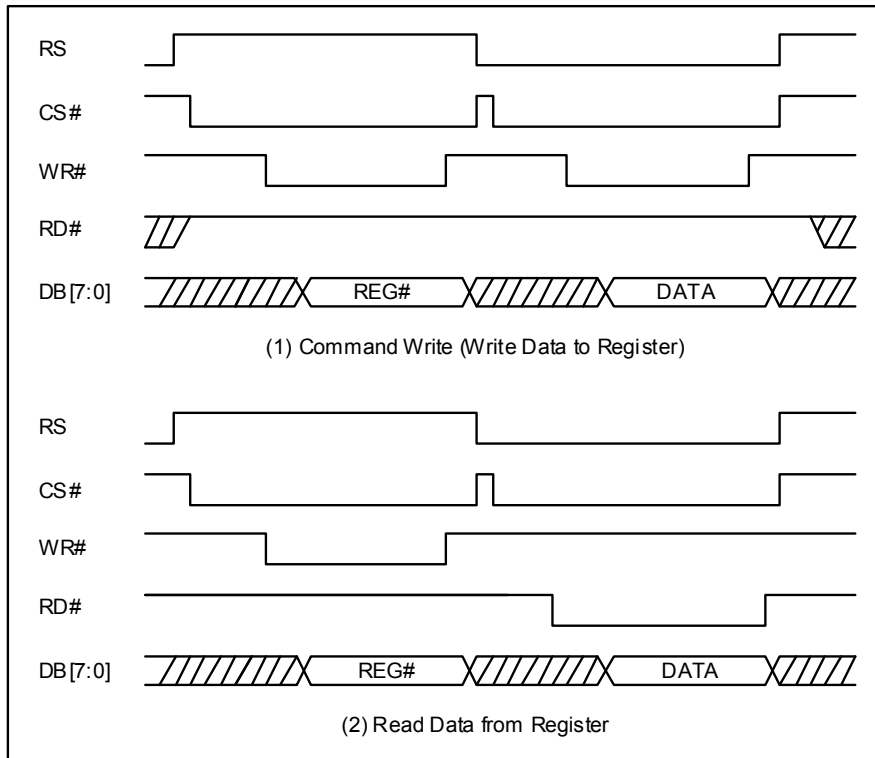

Figure 6-6 : Register Write/Register Read
RA8870 contains dozens of registers. If users want to write a command into the register of RA8870, they must execute the command write cycle first, i.e. the address of register, and then execute the data write cycle for storing a new data into the target register. So “Write Command” means that it will write a new data into the register. Please refer to the Figure 6-6 (1) for the related access timing.
If we want to read the register contents of RA8870, it has to execute the command write cycle first, and then the second access cycle must use “Data Read cycle”. Please refer to the Figure 6-6 (2). But please note that the Figure 6-6 is based on 8080 interface.